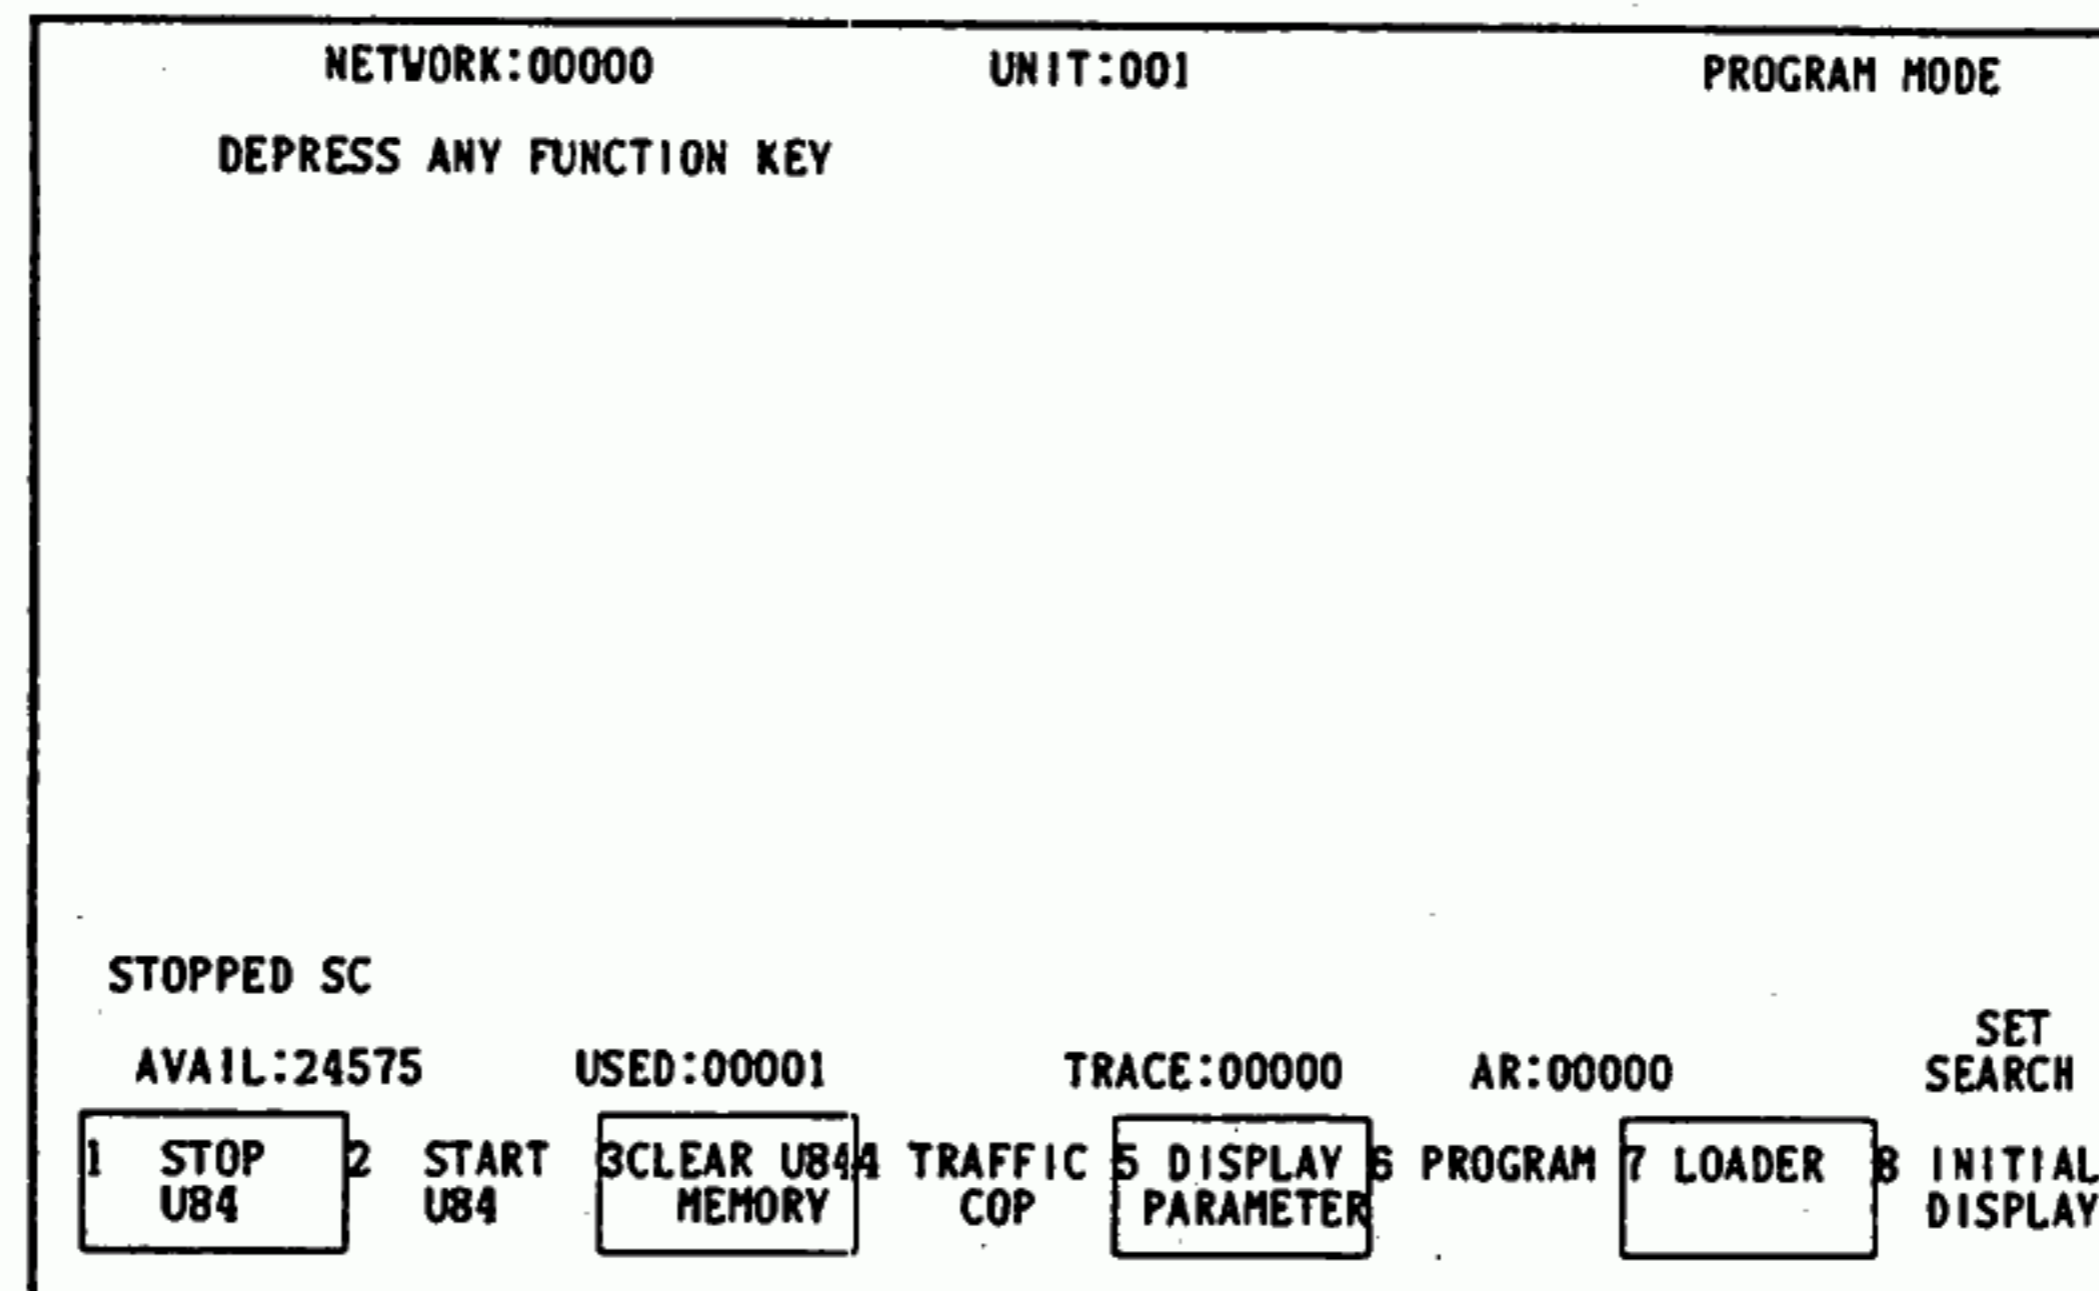

Fig. 4.17
Depressing **SUPERVISORY** key after ATTACH activation produces the display shown in Fig. 4.17, enabling the SUPERVISORY operations indicated in the label area.
2. Depressing **PREVIOUS DISPLAY** key returns the state shown in Fig. 4.17.
2. When depressing **CANCEL** key instead of **CONFIRM** key, only label display returns to the display shown in Fig. 4.17.
2. When depressing (CANCEL) key instead of (CONFIRM) key, only label display returns to the display shown in Fig. 4.17.